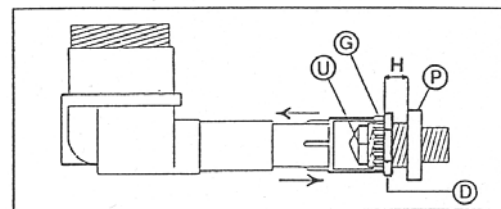

Fig. 4
- For fast and semi-fast burners (Fig. 4) loosen the check nut "D", rotate the ferrule "G" so as to adjust the distance between the ferrule and the nozzle holder "P" to an H value indicated in table 1. Tighten the check nut "D".